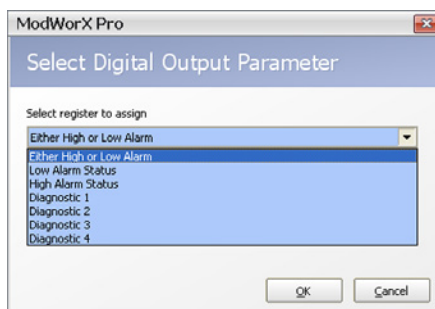

Figure 7.12
- Click the **Select** button beside the Parameter field and select a digital output parameter from the dropdown list on the dialog screen (Figure 7.12, page 97).